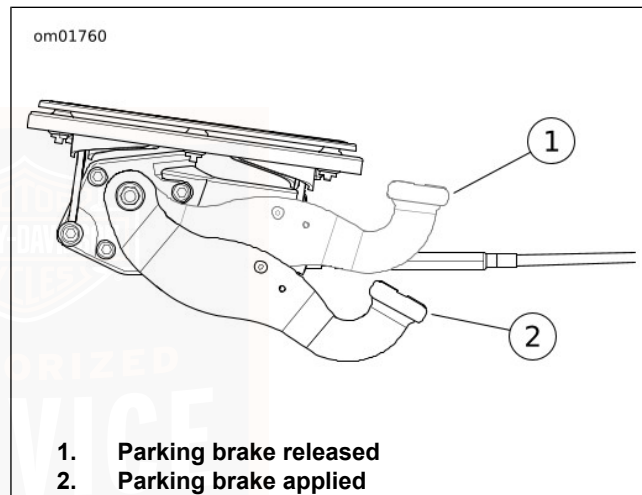

Figure 20. Parking Brake
See Figure 20. The parking brake pedal is on the left side of vehicle. The parking brake mechanically engages brakes for both rear wheels preventing the vehicle from rolling when parked. The parking brake indicator lamp turns on when the parking brake is applied.
4. See Figure 20. With the left foot, firmly push down the parking brake pedal until it cannot be pushed any further.
2. See Figure 20. With the left foot, firmly press the parking brake pedal and release. The parking brake returns to the released position. The rear brake pedal pressure decreases as the parking brake releases.